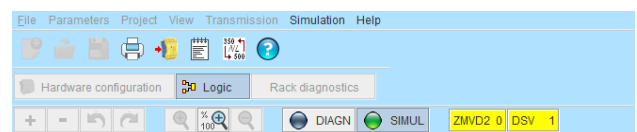

Fig. 35-1
- Start the simulation with the "SIMUL" button. (Fig. 35-1)